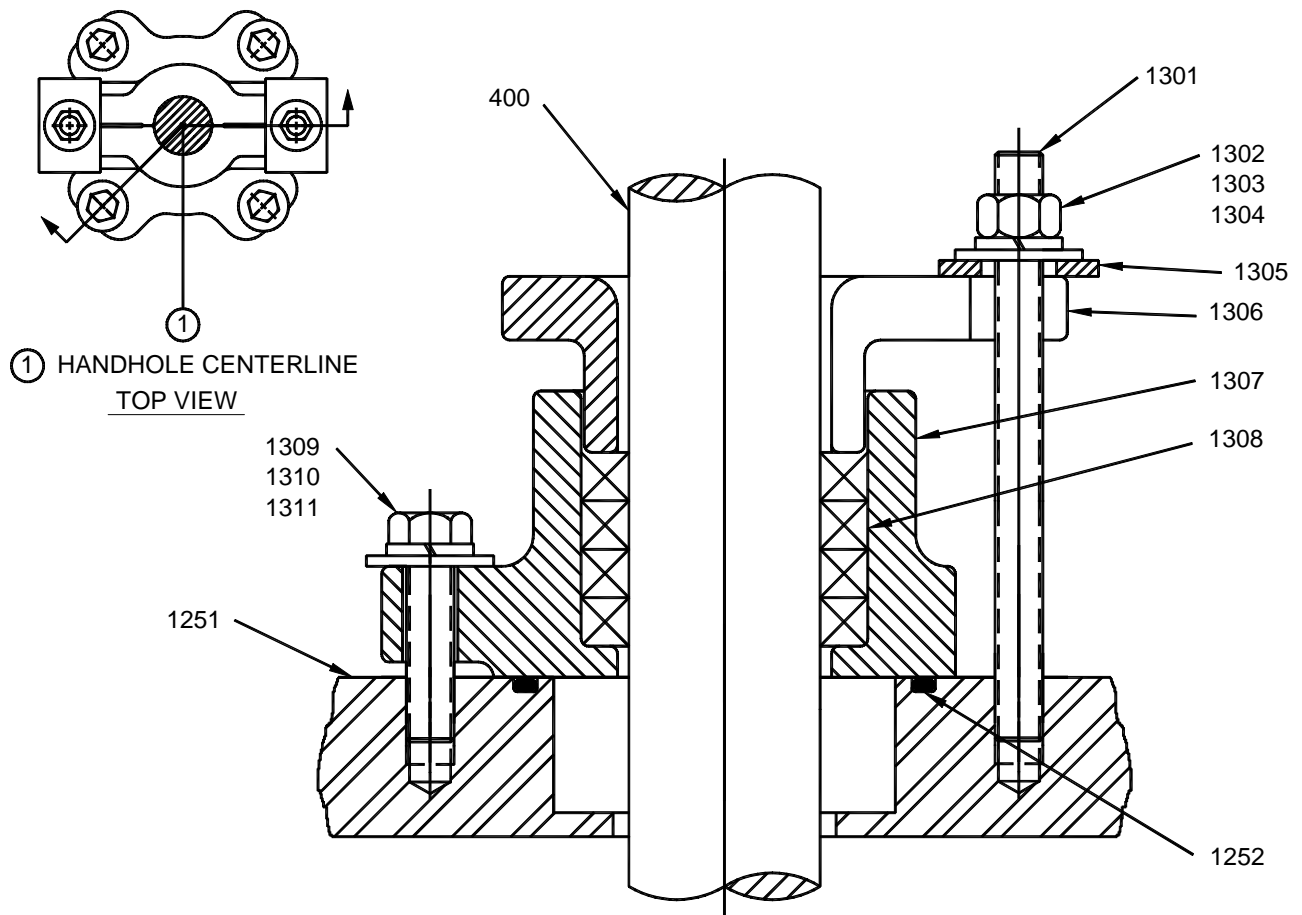

Figure 3: Stuffing Box Installation
7. **For DTA units:** Install the split packing gland [1306] over the threaded studs [1301] with gland clamps [1305], hex adjusting nuts, lockwashers, and flatwashers [1302, 1303, 1304]. Refer to *Figure 3, page 8*. The split packing gland must be square with the packing housing. Tighten packing housing bolts [1309]. Torque to the value shown in *Table 7, page 20*.